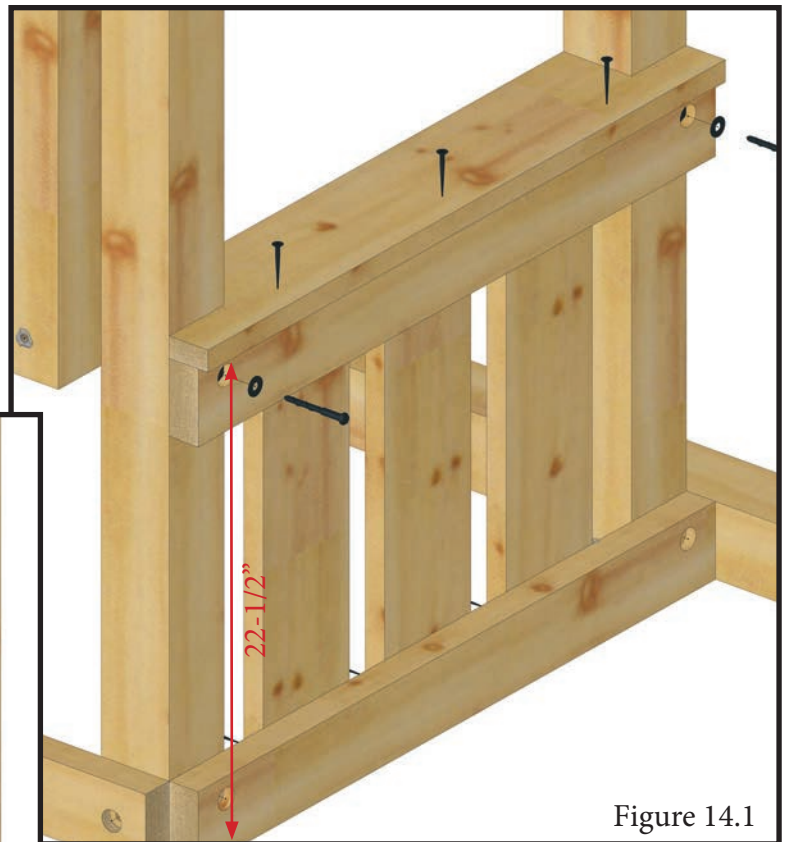

Figure 14.1
14.2 Fasten Top Panel Offset 33" to Corner Post with 5/16 x 3 Lag Bolts with 5/16 washer as shown in Figure 14.1.
14.4 Pre-drill and fasten Counter 33" to Top Panel with #8x2 screws as shown in Figure 14.1.